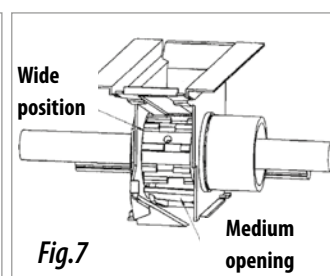

Fig.7
- Wide cog with large alternated teeth for normal and big seed (figs. 7 and 8).